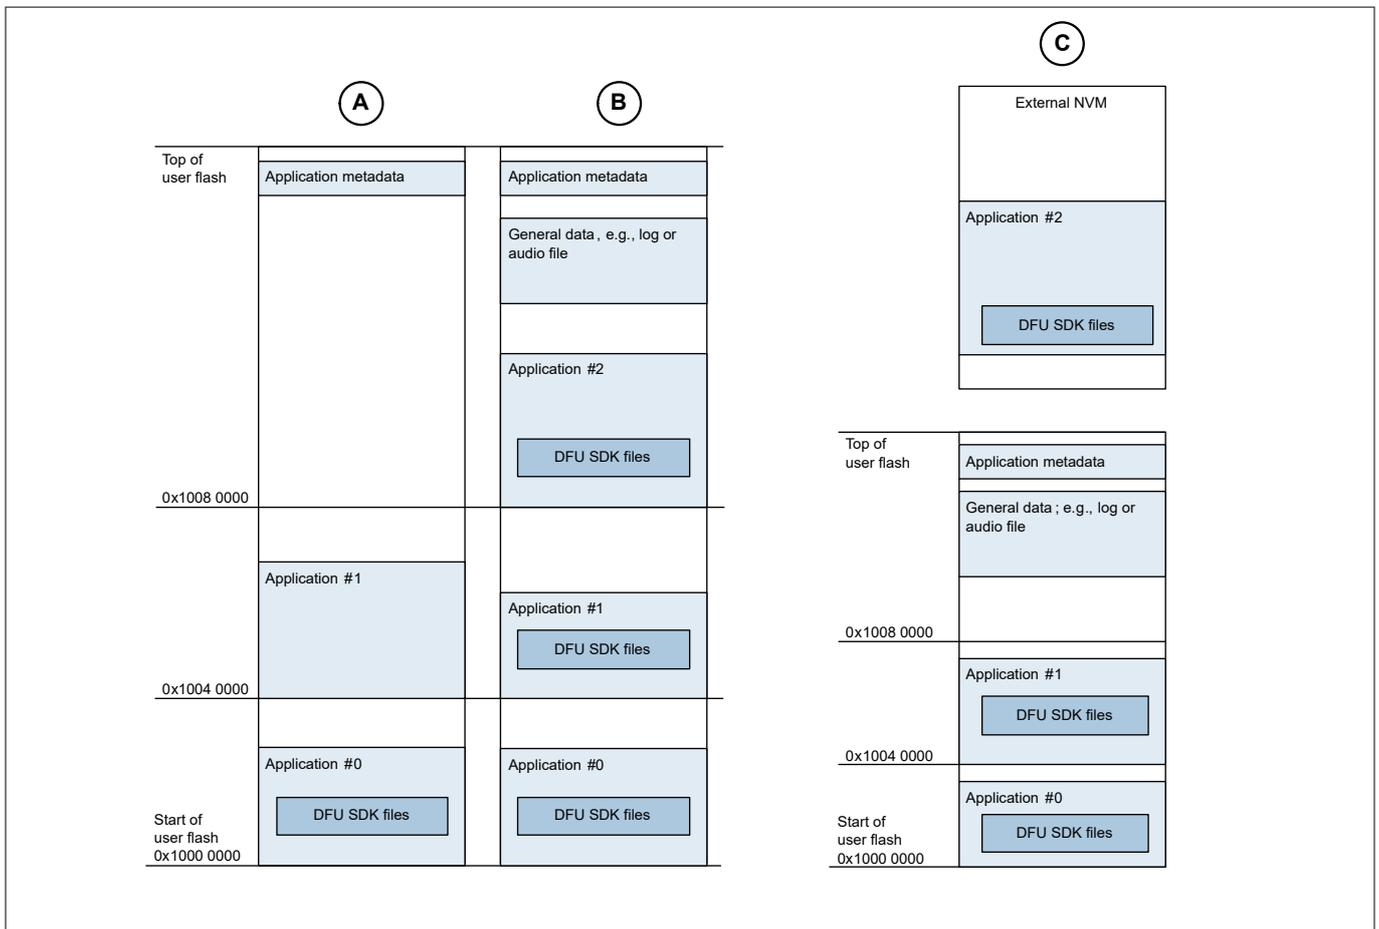

Figure 6 Example DFU memory maps
The first step is to decide how many applications are to be in your design, and the purpose of each. Which applications will have DFU capability? Figure 6 shows some typical memory maps for multiple applications:
- The first application, usually called “App0”, must be located at the beginning of user flash, which in PSoC™ 6 MCU is at address 0x1000 0000, as Figure 6 shows. This is the first application to execute after device reset²⁾.
- Applications may reside in external memory as well as the device’s internal flash, as map **C** in Figure 6 shows. External memory is in a 128-MB sub-region from 0x1800 0000 to 0x1FFF FFFF
- NVM data that may be updated during the normal workflow, for example an events log, should not be part of an application, because it makes the application difficult to validate. Instead, designate a region of NVM that is outside any application’s space and use it for data storage. Figure 6 shows two examples in maps **B** and **C**
- Reserve one row of flash for application metadata, as Figure 6 shows. (In rare cases more than one row may be required.) Application metadata is managed by the DFU SDK and is used by applications to transfer control to another application. Application metadata space should be outside any application space